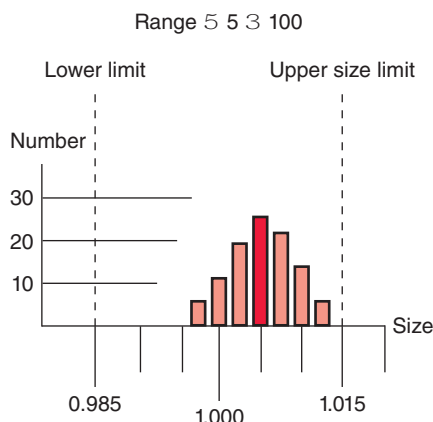

Figure 28-15 What does this histogram show?
Cpk is a moving value. It changes as we go along. If the operation is working well, the Cpk will remain above 1.3. If variation leaves the control limits, the Cpk falls below 1.00, and that's bad. The tighter the variation can be controlled in the process, the higher the Cpk will be. On the control graph (Fig. 28-15), the Cpk is dropping off toward a trend.
1. A *histogram* is compiled as shown Fig. 28-15, for a hole that's nominally 1.000-in. diameter with a ± 0.015 -in. tolerance.